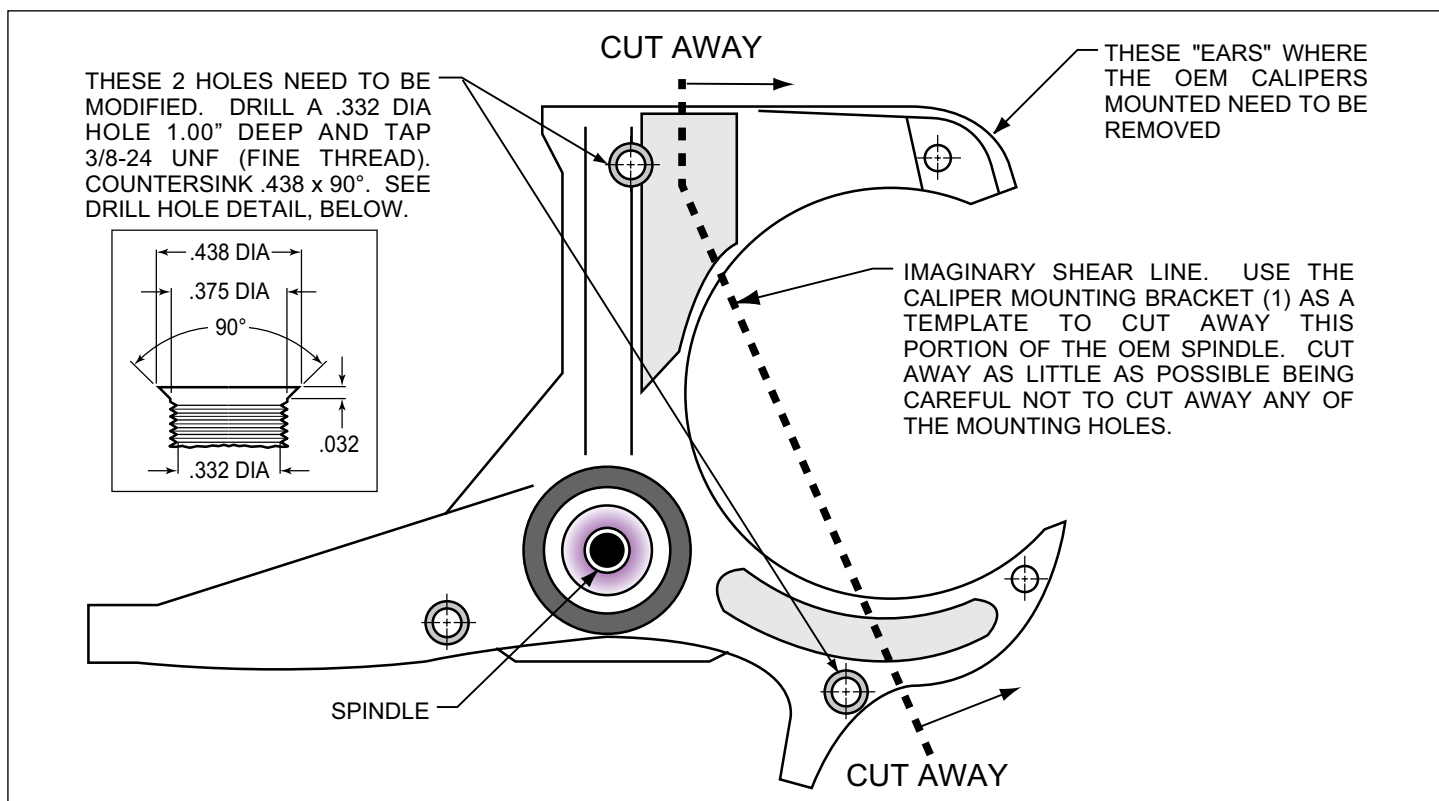

Figure 1. Steering Arm / Spindle Modifications
NOTE: These modifications should be performed by a qualified machinist and completed before assembly of the Wilwood disc brake kit begins. Refer to Figure 1 as necessary (numbers in parenthesis refer to the parts list). Only one view of the steering arm/spindle is shown, but the modifications need to be performed on both steering arm/spindles.
The two OEM holes that will be used to mount the caliper mounting bracket (1) need to be modified. Drill a .332 diameter hole through both holes, Figure 1, then tap 3/8-24 UNF (fine thread). Countersink the holes to .438 x 90°. The "ears" that protrude to form a "C" shape need to be removed to facilitate the installation of the Wilwood kit. Using the bracket as a template, mark two cut marks on the steering arm. Remove as little as necessary from the "C" shape, being careful not to cut away any of the mounting holes required to bolt on the bracket.